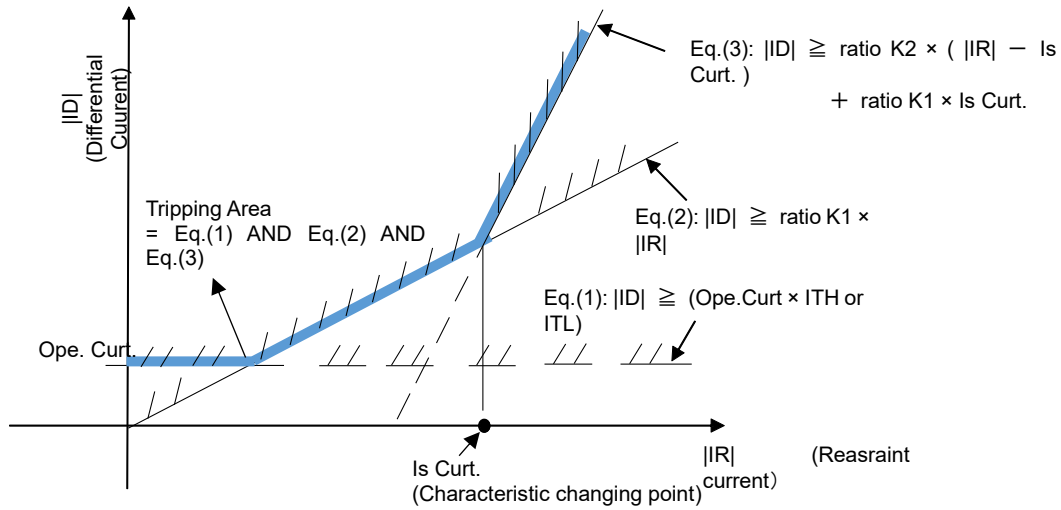

Fig. 3-8 Tripping characteristic of differential element (ratio K1 < ratio K2)
This section shows the recommend setting of 'ratio K1' and 'ratio K2'. Normally, the characteristic slope by Eq. (3) is set as Fig. 3-8. In this case, 'ratio K2' set bigger than the 'ratio K1' (ratio K1 < ratio K2). It is because, the slope of Eq. (3) avoids unwanted trip by abnormal conditions (e.g. CT saturation).